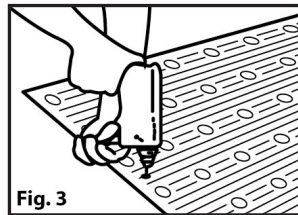
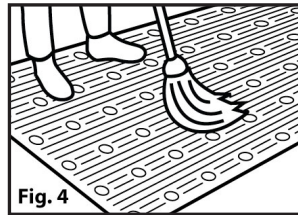

Fig. 3
Fig. 4
5. Place panel in marked installation area. Make necessary adjustment prior to fastening. Standing on the panel using a hammer drill with a  $\frac{5}{16}$ " carbide tipped bit, drill a hole a minimum of 2" deep.(Figure 3) Clean drilling debris from holes. (Figure 4)